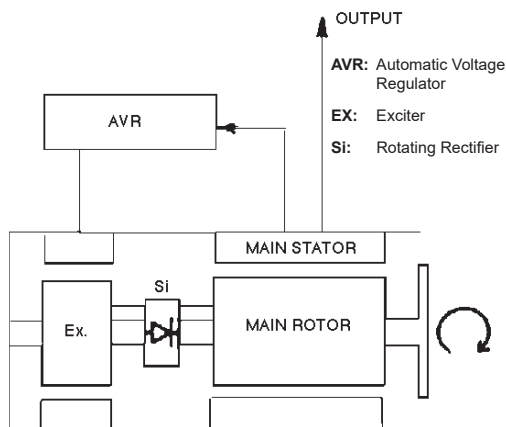

Figure 2: PX-300K2 Block Diagram
The excitation system of the PX-300K Series generator uses an Automatic Voltage Regulator (AVR) which uses a portion of the output power to supply controlled DC power to the exciter field (EX) as show in Figure 2. When DC power is supplied to the exciter field, output from the exciter armature is rectified by a 3-phase bridge rotary rectifier (Si) and supplied to the main field coils. See Figure 2.